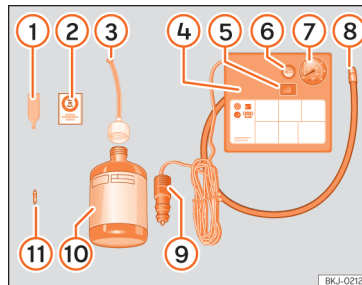

Fig. 31 Standard representation: anti-puncture kit contents.
» **Fig. 31:**
- Unscrew the tyre valve cap and insert. Use the »» Fig. 31 ① tool to remove the insert. Place it on a clean surface.
- Shake the tyre sealant bottle vigorously »» Fig. 31 ⑩.
- Screw the inflator tube »» Fig. 31 ③ into the sealant bottle. The bottle's seal will break automatically.
- Remove the lid from the filling tube »» Fig. 31 ③ and screw the open end of the tube into the tyre valve.
- Place the insert back into the tyre valve using the tool »» Fig. 31 ①.
- Screw the compressor tyre inflator tube »» Fig. 31 ⑧ into the tyre valve.
- Check that the air bleed screw is closed »» Fig. 31 ⑥.
- Insert the connector »» Fig. 31 ⑨ into the vehicle's 12-volt socket »» page 139.
- Turn the air compressor on with the ON/OFF switch »» Fig. 31 ⑤.
- Attach the sticker »» Fig. 31 ② to the instrument cluster, within the driver's visual field.
Screw the inflator tube »» Fig. 31 ⑤ again and check the pressure on the gauge ⑥.